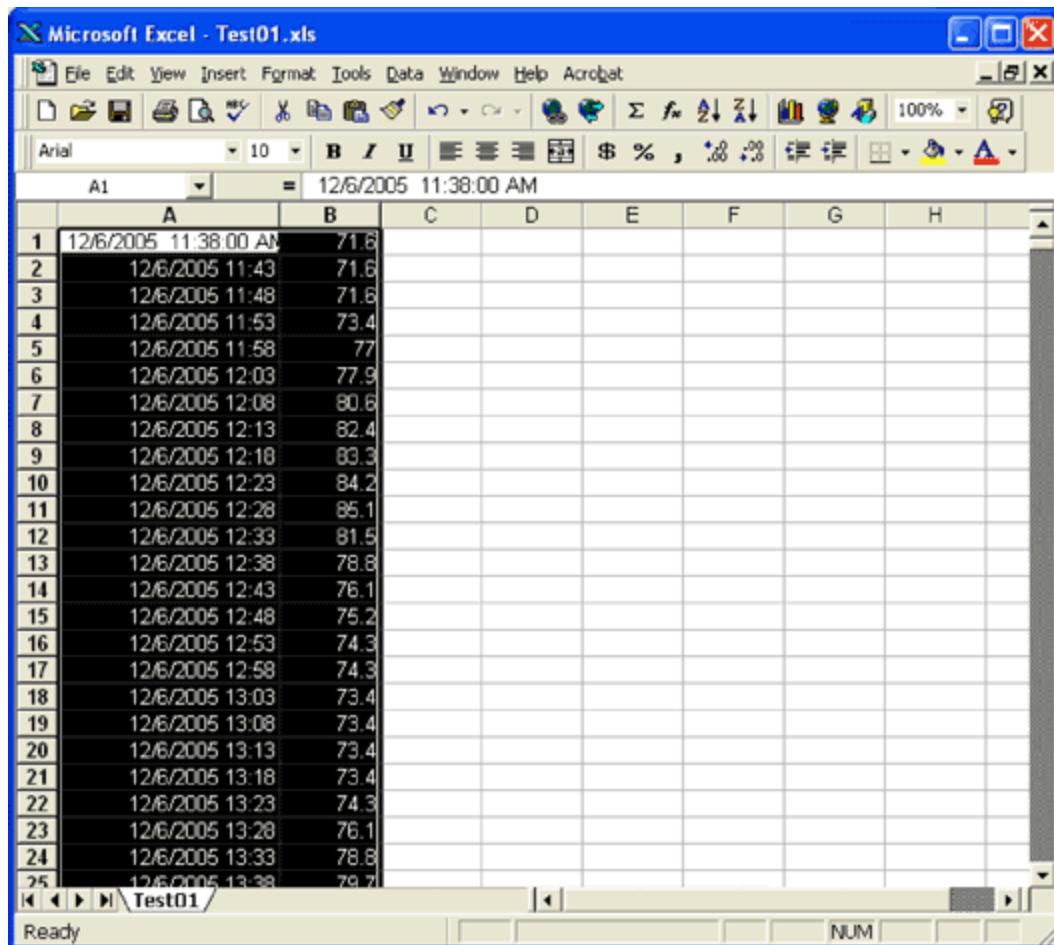

Figure 10. Select your time and temperature data to begin graphing.
2. Select the log data to be graphed, highlighting both the time and temperature columns (Figure 10).